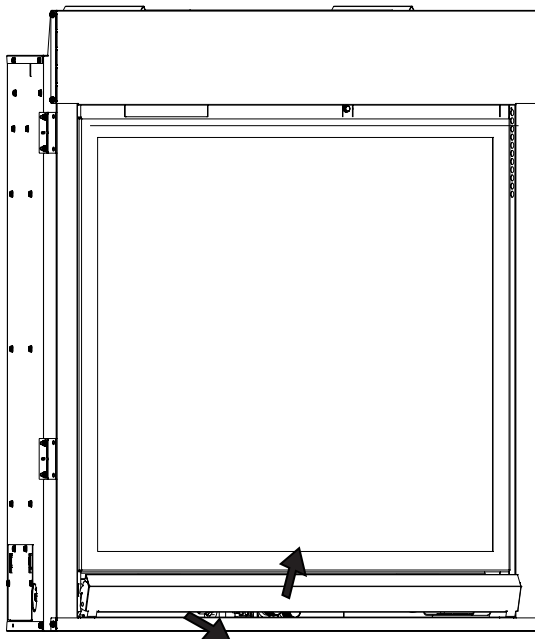

Figure 5
- 1b. **(Pre 2016)** Make sure power and gas are turned off. Tilt and pull lower panel to remove from bottom assembly. See Figure 5.